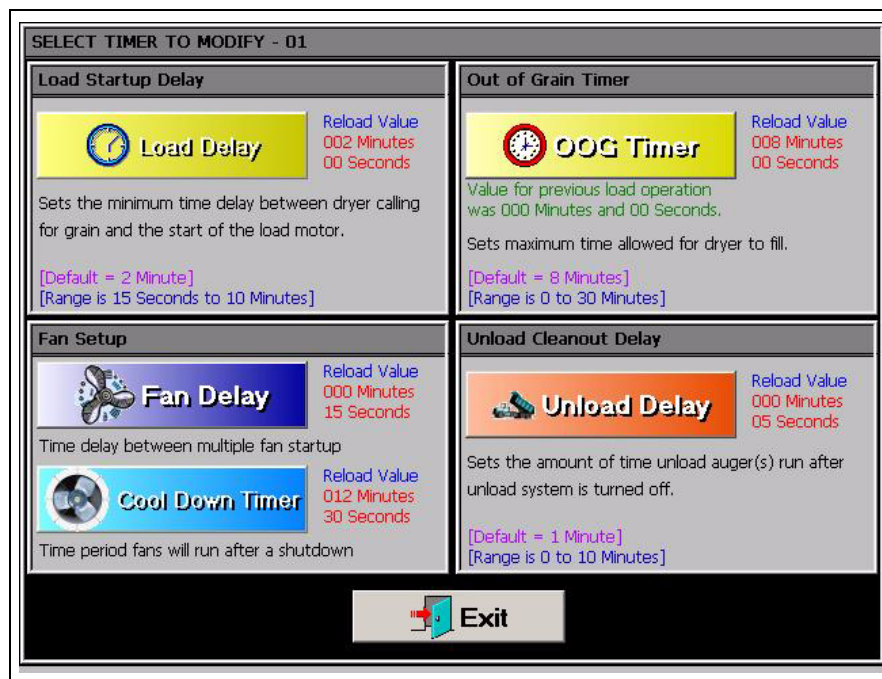

Figure 5B
Select the  Timers button. A new screen will appear called the “Select Timer to Modify” screen. (See Figure 5B.) There are five (5) timers that can be modified.